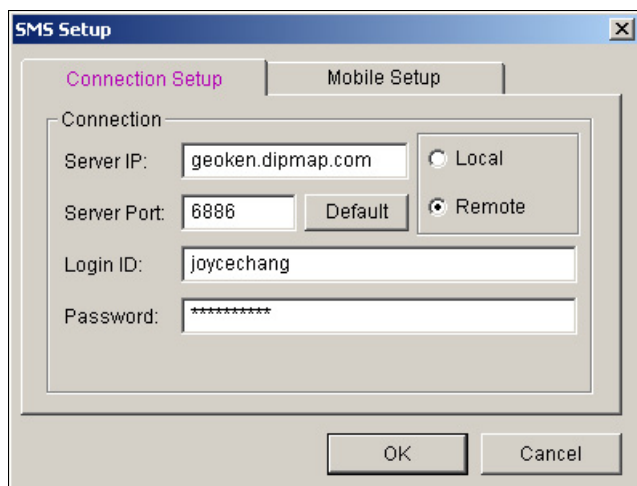

Figure 10-11 SMS Setup- Connection Setup
2. Type a login ID and password. They will be the ID and password for the client to log in the SMS Server. Refer to Figure 10-11.
2. Click the **Account Setting** button. This displays the SMS Setup dialog box (see Figure 10-11).